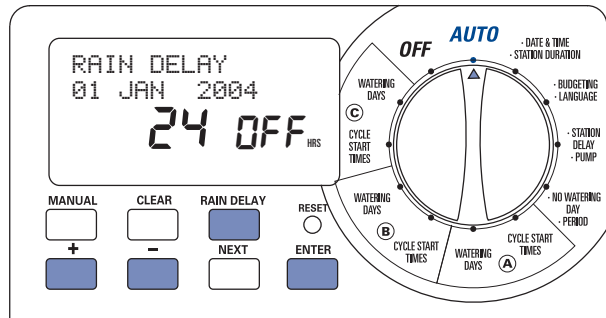

Figure 13: “Rain Delay” set for 24 hours
- Press the **RAIN DELAY** button to automatically delay watering for 24 hours. [See Figure 13]